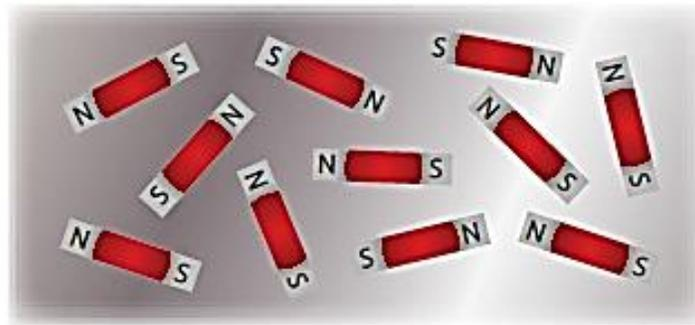

Figure 4.1: Molecules in Un-Magnetized Iron
- 4-14 The molecular theory of magnetism is based on the idea that each molecule of a magnet is itself a tiny magnet. The molecules in an un-magnetized bar of iron or steel are arranged at random, as shown in Figure 4.1. The overall effect of this random arrangement is to produce no magnetic effect at all.